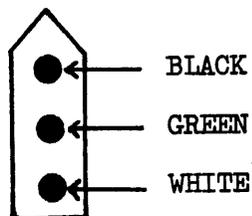

Figure 2
5. Install the pins into the female connector (1446 9738) as shown in Fig. 2.